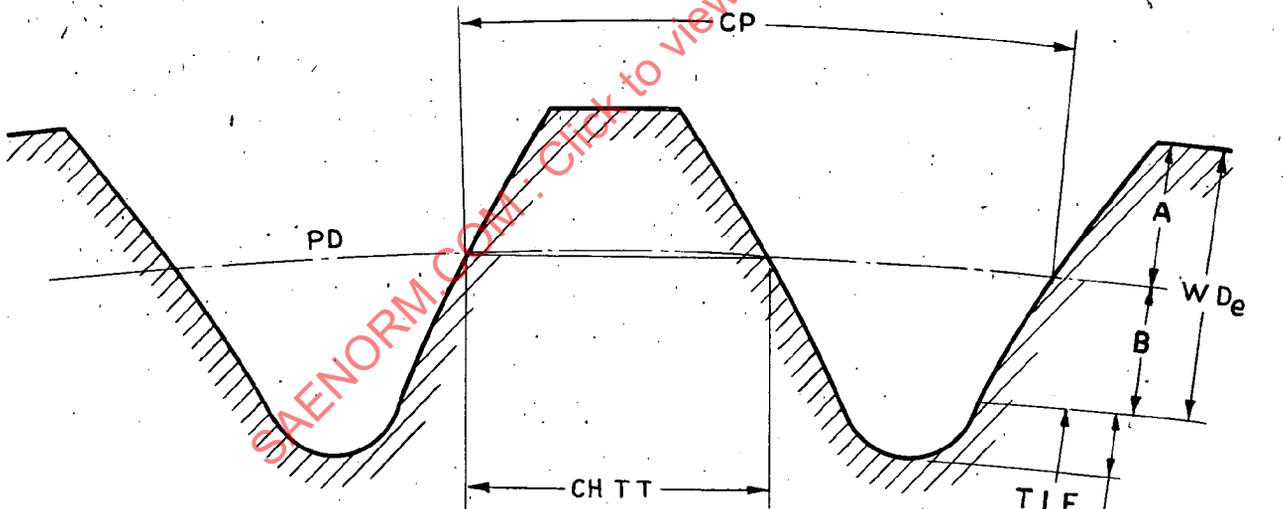

FIG 2
- B. Figure 2 shows a tooth diagram of a plug gage. The various elements of the tooth are illustrated and defined.